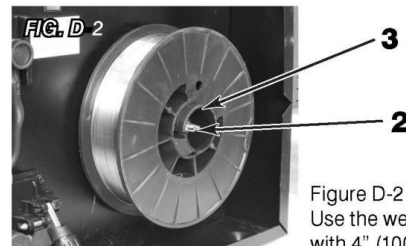

Figure D-2
For installing (See Figure D-2) a wire spool 8"(200 mm) in diameter, attach the spool (1) to the plastic barrel (2).The position fixing pole of the plastic barrel should be aligned with the locating hole of the welding wire spool.